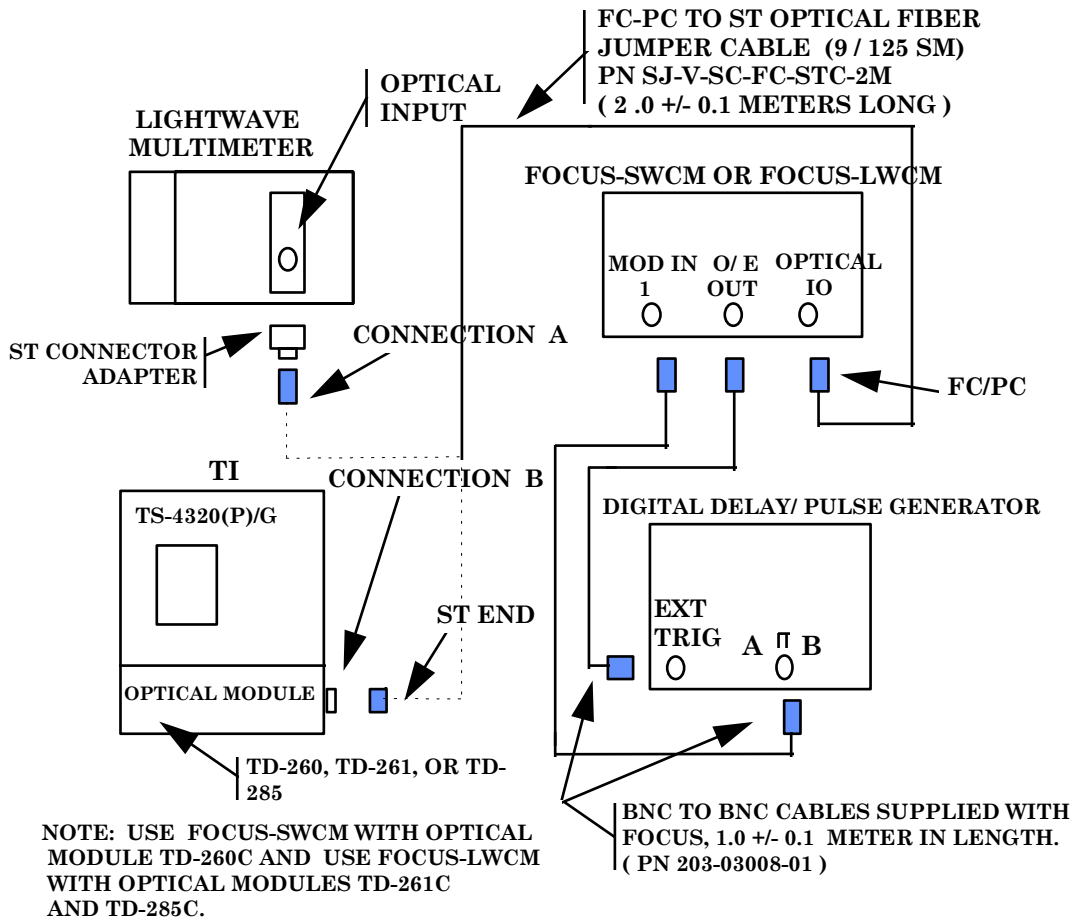

Figure 21. Equipment setup for time insertion delay after fiber test box is removed.
- d. Remove fiber test box from test setup and connect equipment as shown in CONNECTION A (fig. 21) below.